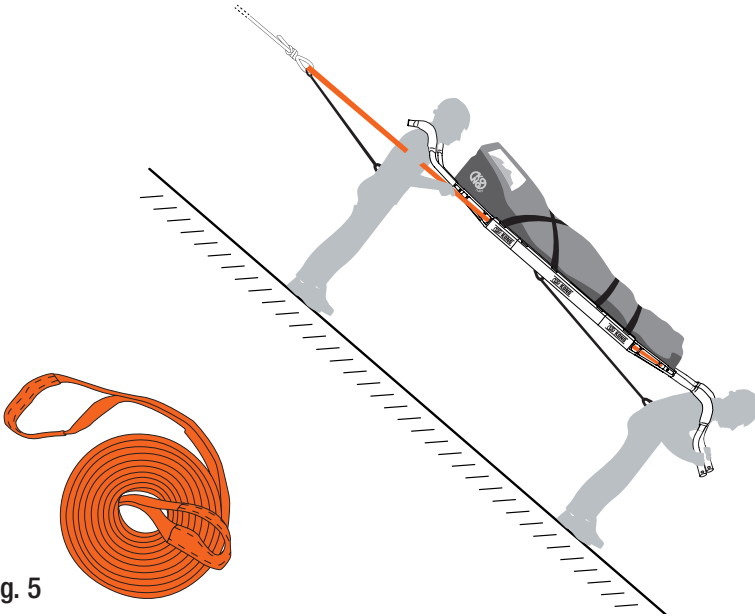

Fig. 5
- **Lowering and recoveries on areas with steep inclinations (fig. 5)**
- **Lowering and recoveries in a vacuum (fig. 5)**